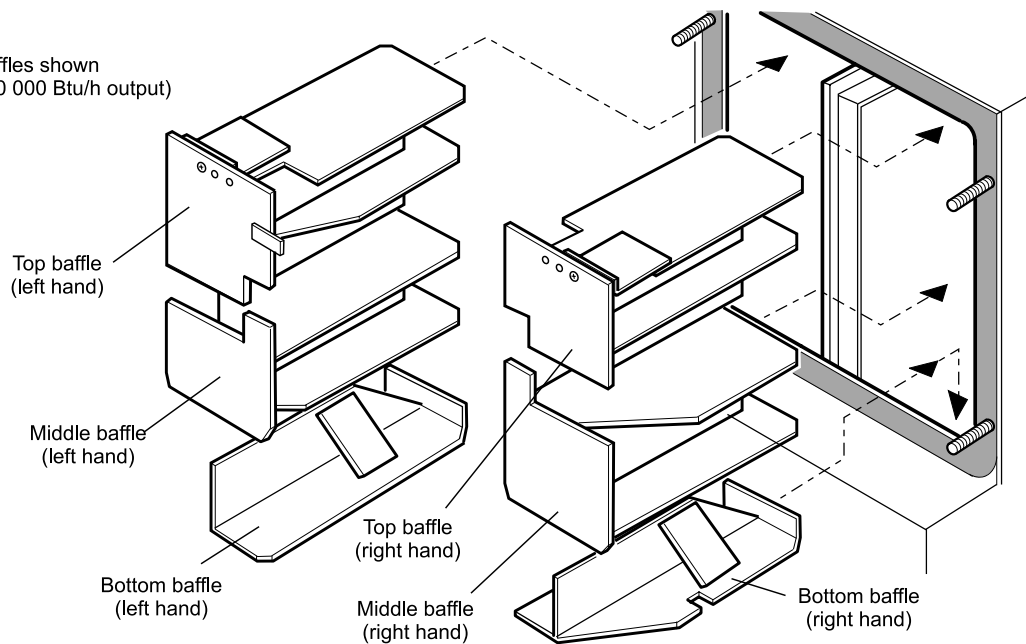

Fig. 34
See Fig. 34
- 2 Remove the baffles as shown in Fig. 34 (baffles shown for 70/90 model). Refer to Figs. 39 to 43 for other baffle configurations.
- 6 Replace the baffles, ensuring they are correctly fitted. See Fig. 34.